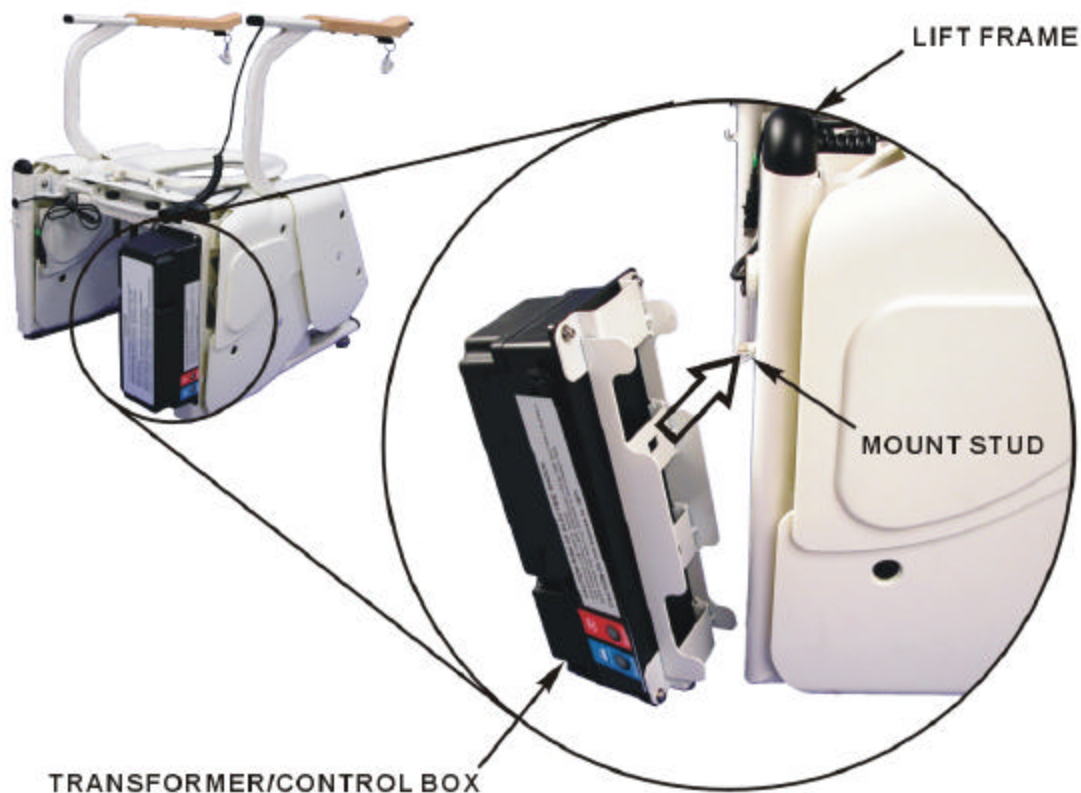

Figure A-1. Transformer/Control Box Mounting
- Step 2.** Determine which side the transformer/control box and control arm are to be mounted. Refer to the DESCRIPTION AND OPERATION section of this manual to determine placement of the transformer/control box and control arm (for one side or the other). If the optional battery pack is being installed in place of the transformer/control, omit the remainder of this step and accomplish step 2a. Hang the transformer/control box and mount bracket on the back of the lift frame mount stud as shown in Figure A-1. Omit step 2a.